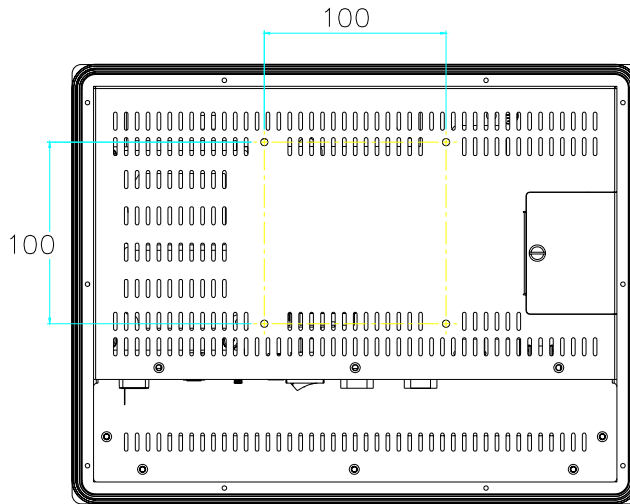

Figure 3-17: Arm Mounting Retention Screw Holes
Step 6: Align the retention screw holes on the mounting arm interface with those in the flat panel PC. The flat panel PC arm mount retention screw holes are shown in **Figure 3-17**.